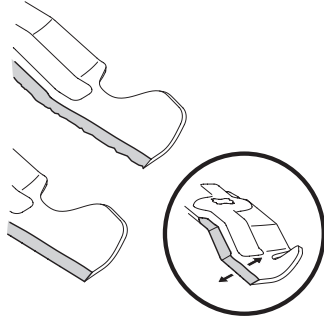

Figure 25
5. To properly sharpen the cutting blade, remove equal amounts of metal from both ends of the blade along the cutting edges, parallel to the trailing edge, at a 25° to 30° angle. Always grind each cutting blade edge equally to maintain proper blade balance. See Figure 25.